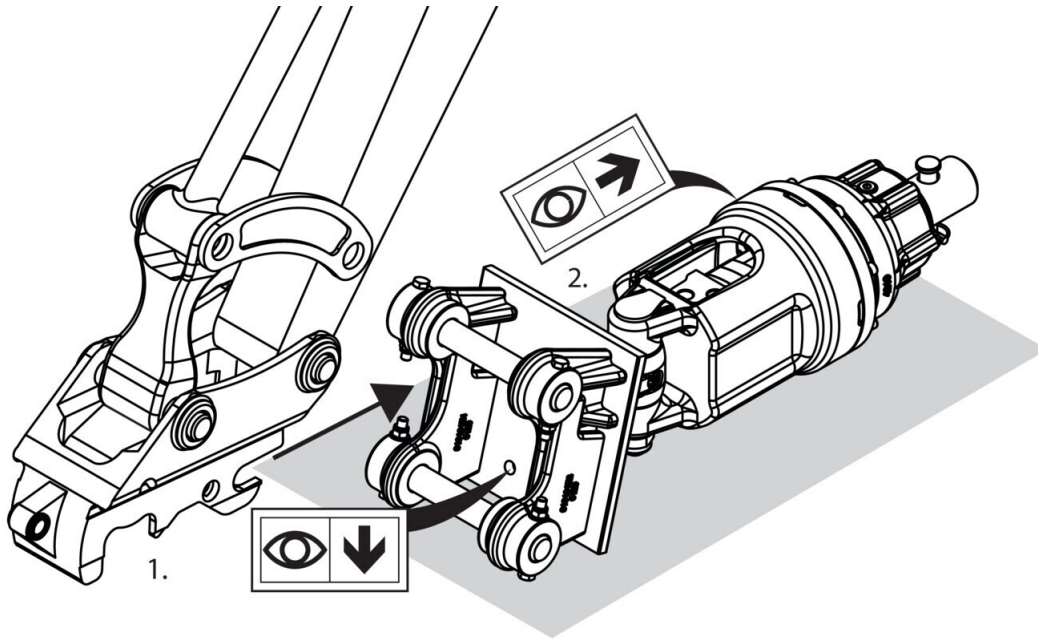

Fig. 19
Double Pin Mount. Shown the correct orientation of the auger drive unit assembly, item 2. and mounting bracket, item 1. The shaft of the auger drive should face the parent machine and operator. **Fig.19.**